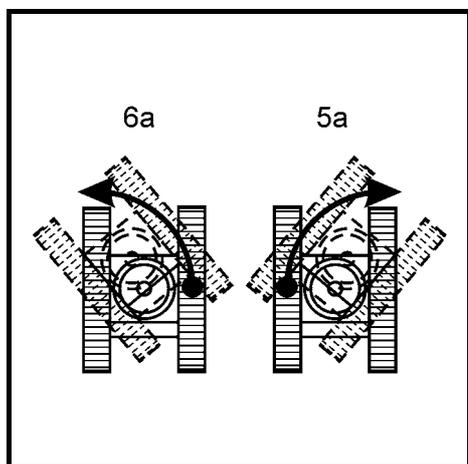

Fig. 20
- To turn left forward (Fig. 20):
- To turn right forward (Fig. 20):